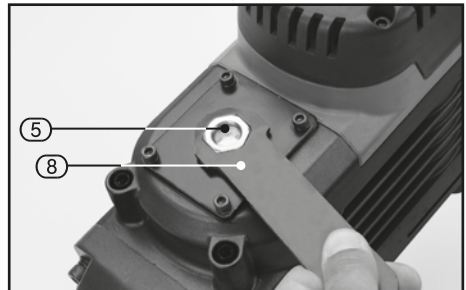

FIG.5
- FIGS. 5 & 6
Remove sight glass window (5) with the supplied spanner (8), making sure not to damage or lose the gasket, Fig.5.